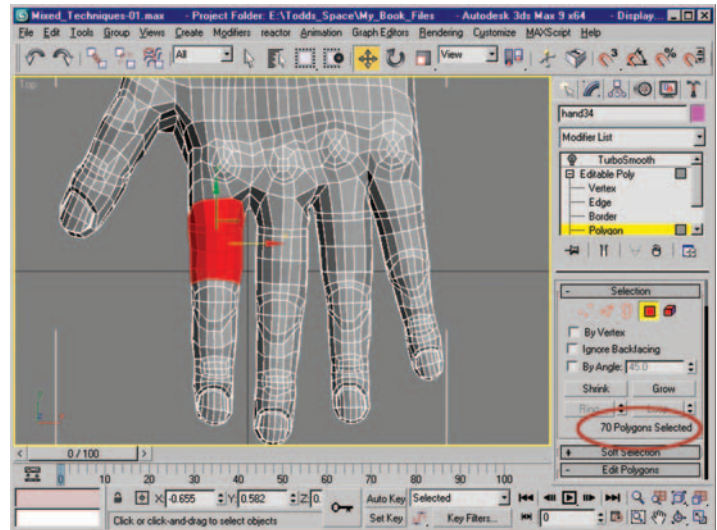

Figure 10.1 Polygon selection; 70 polygons in total are selected.
2. In the top viewport, select the 70 polygons seen in Figure 10.1.